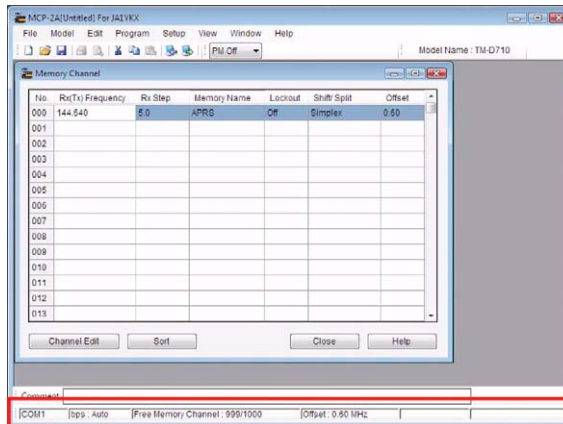

Figure 9-8 Memory Channel Shortcut
- Double-click “Free Memory Channel: xxxx/1000” on the Status bar (see Figure 9-8). The **Memory Channel** window will appear.
- Double-click “Offset/ Tx Freq.”, “Plus/ Minus Shift/ Split”, “T/CT/DCS” sections on the Status bar (see Figure 9-8) to edit the channel configurations. The **Channel Edit** window will appear.
Double-click the “COM x” or “bps : xxxx” sections on the Status bar (see Figure 9-8). The **COM Port Setting** window will appear.